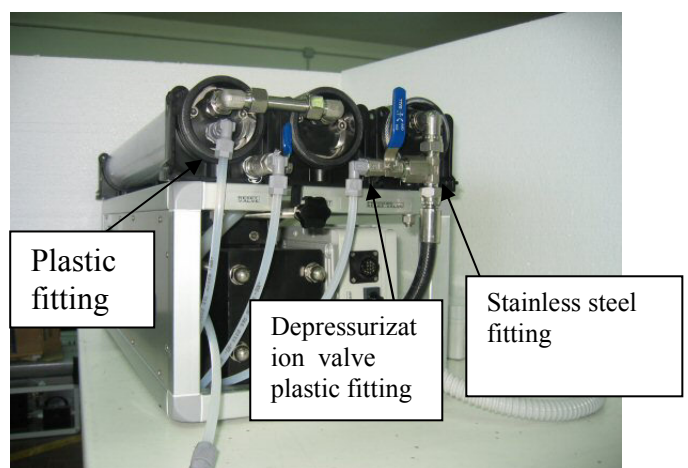

Fig. 3 – Right view
- 3) Disconnect, using 2 wrenches, the 3/8 high pressure hose coming from the third tube, and the plastic fittings of the depressurization valve and the plastic fitting positioned on the first cylinder (fig. 3)